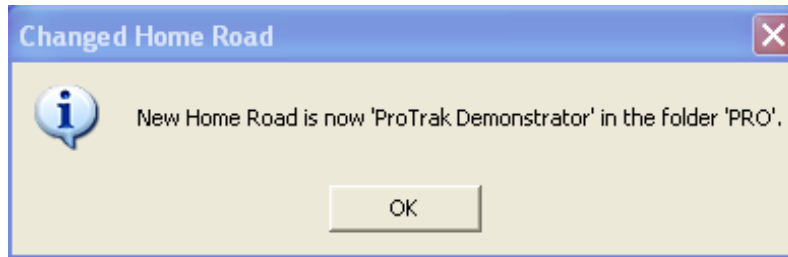

Figure 1-7
11. You will notice that there are only two railroads listed here, NSOU and PRO. NSOU is the sample railroad that is provided with ProTrak. If you previously have started to create a railroad, that railroad may also be displayed. In any case, the railroad we want to work with is PRO so click on that railroad (line 2 in this case), then click on "Change to this railroad". The message displayed in Figure 1-7 will now appear confirming that we are now working with the ProTrak Demonstrator Railroad.